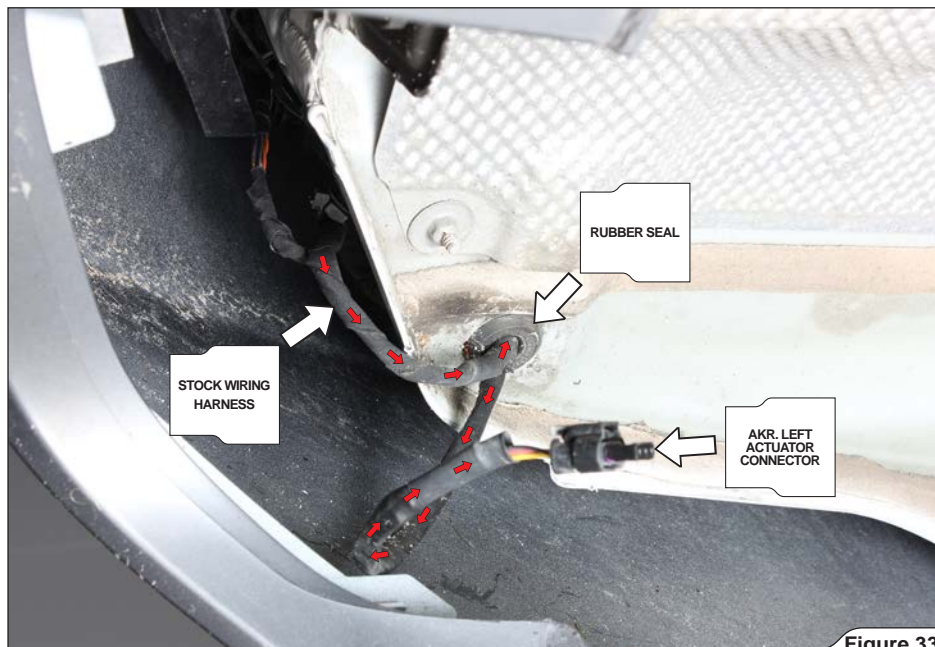

Figure 33
4. Remove the marked rubber seals and cut them half way through; retract the stock exhaust valve's wiring into the trunk through rubber seal holes on both sides of the vehicle, connect the stock connectors to the Akrapovič wiring harness connectors; protrude the Akrapovič wiring harnesses through the same rubber seal holes and distribute and secure the wiring harness (use tie wraps from Akrapovič installation kit), as shown to the left and right side of the trunk (Figure 33, 34).